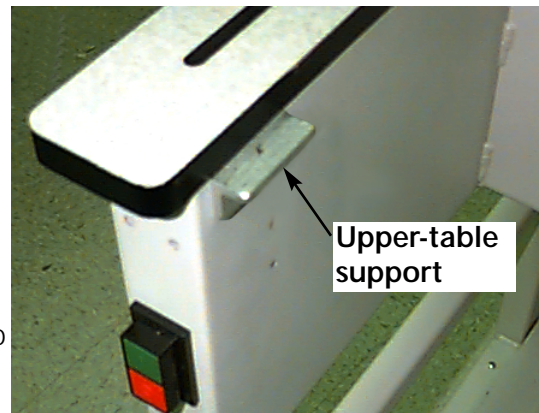

Figure 2-12
1. Raise the sewing table by lifting the front of the table and pulling it towards you. Place the table top on the upper table supports (Figure 2-12) and push the table top towards the rear of the machine. The table top will snap into place.